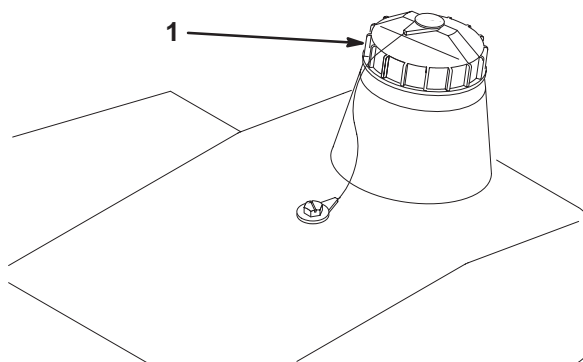

Figure 8
1. Remove the cap from the hydraulic oil reservoir (Fig. 8).